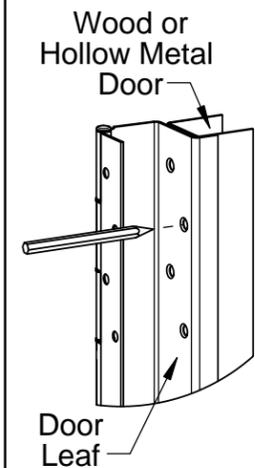

Fig. 2
1. Place the hinge door leaf on the edge of the door. Position the top of the hinge flush with the top of the door. (Fig 2)